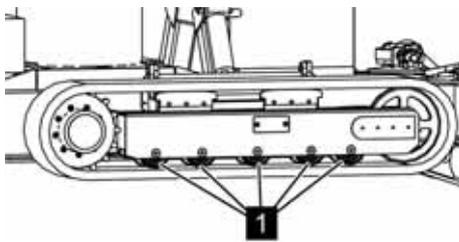

Fig. 134: Lid and cover
2. → The rollers (Fig. 134/1) must turn by hand.